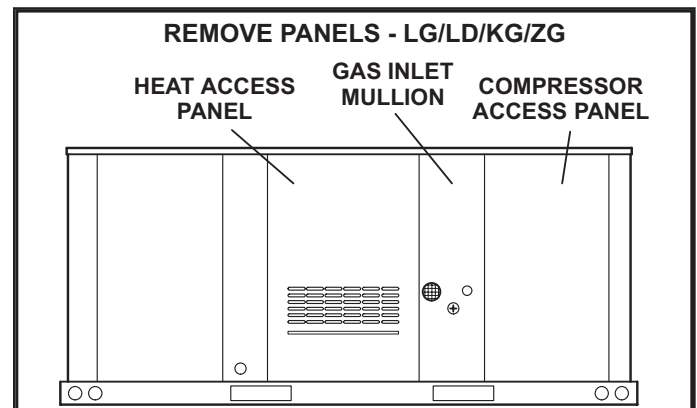
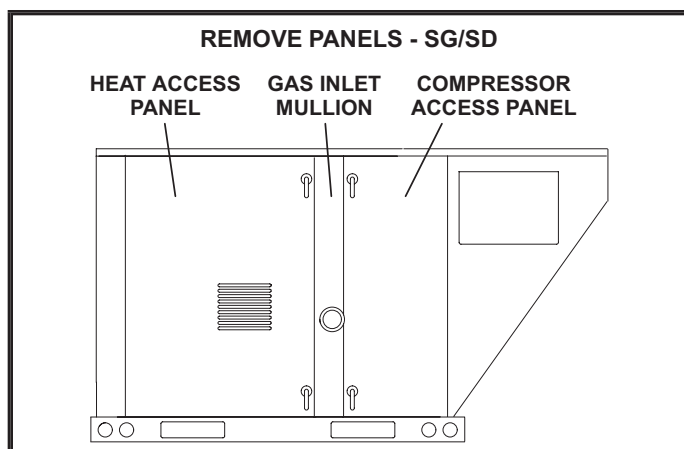

FIGURE 1
FIGURE 2
- 4 - Open or remove heat and compressor access panels. See FIGURE 1 or FIGURE 2.
- 5 - Remove the gas inlet mullion. See FIGURE 1. If conduit is run to the mullion, move the mullion out of the way. Disconnect wiring and remove conduit if necessary.